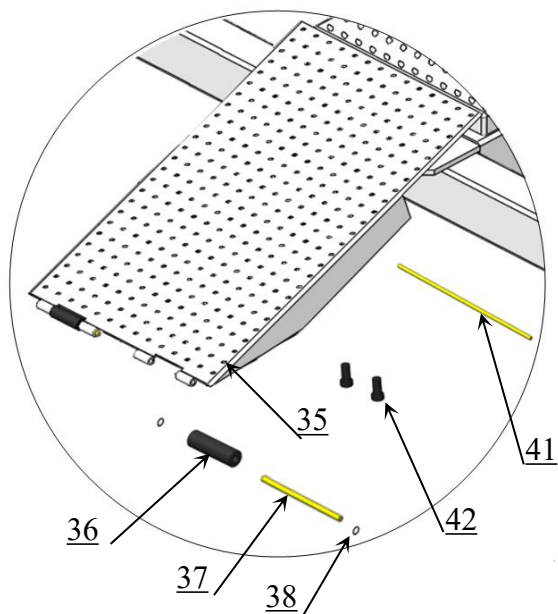
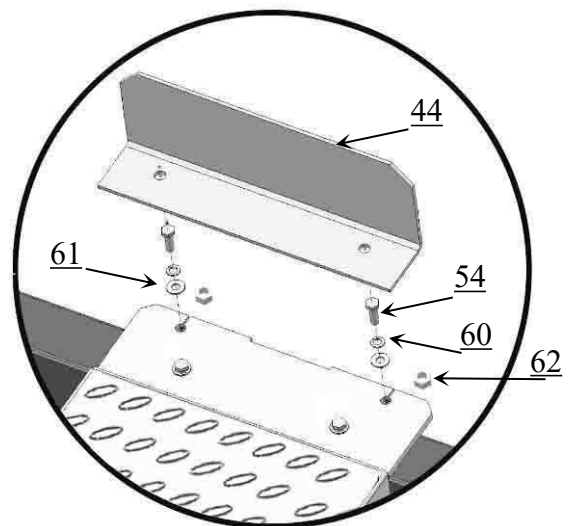

Fig.51
Fig. 52
P. Install Drive-in ramp, Tire stop plate. (See Fig. 51, Fig.52)